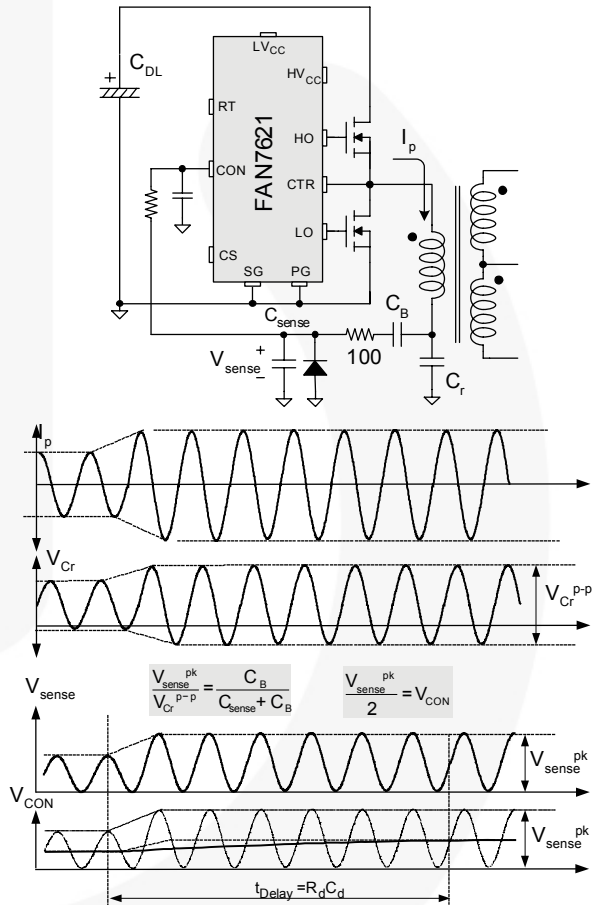

Figure 27. Current Sensing Using Resonant Capacitor Voltage
To minimize power dissipation, a capacitive voltage divider is generally used for capacitor voltage sensing, as shown in Figure 27.
**5.7 Overload Protection (OLP):** Overload is defined as the load current exceeding its normal level due to an unexpected abnormal event. In this situation, the protection circuit should trigger to protect the power supply. However, even when the power supply is in the normal condition, the overload situation can occur during the load transition. To avoid premature triggering of protection, the overload protection circuit should be designed to trigger only after a specified time to determine whether it is a transient situation or a true overload situation. Figure 27 shows a typical overload protection circuit. By sensing the resonant capacitor voltage on the control pin, the overload protection can be implemented. Using RC time constant, shutdown delay can be also introduced. The voltage obtained on the control pin is given as: